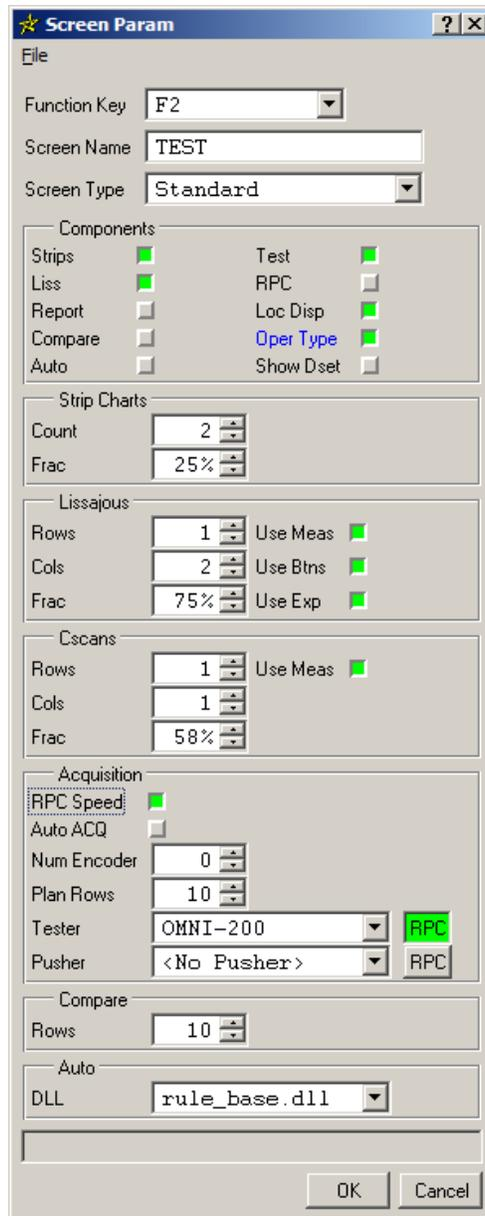

Figure 5
- c. Select Edit > Screens and ensure the configuration is set to look like **Figure 5**.